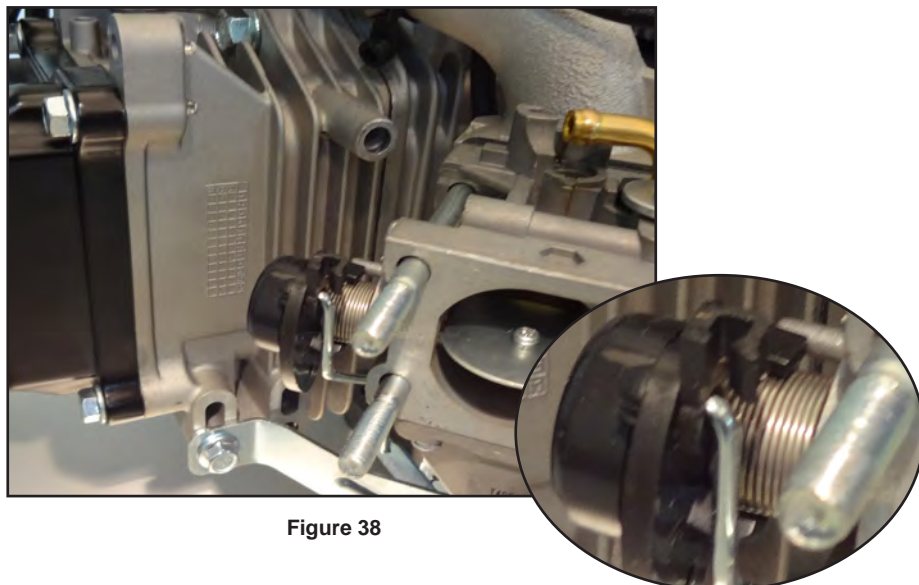

Figure 38
4. Install the choke link to the choke pivot on the control plate, then insert onto the choke override lever on the carburetor, lock by rotating the clip over the link (Figure 38).